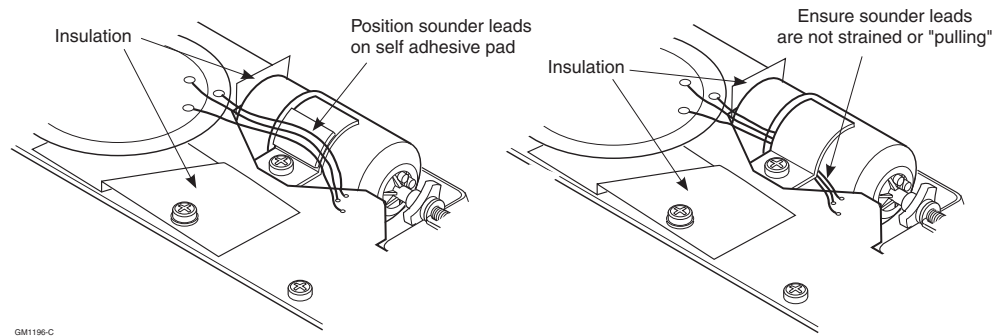

Figure 4-5 Piezo Transducer wiring
3. Check the motor is still correctly positioned (see *Figure 4-5*). Use a fresh adhesive pad on the clamp to hold the wires.